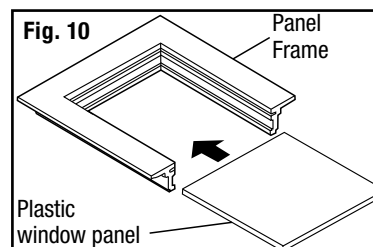

Fig. 10
Slide in the window panel, with the smooth side facing the room. Slide panel frame assembly into side channels of the AC cabinet. Make sure plastic window panel is firmly enclosed on all sides by the retainer grooves. (Fig. 10)
- Remove the two front retaining screws from the front frame. (Fig. 10)
- Release the control board plug. (Fig. 10)